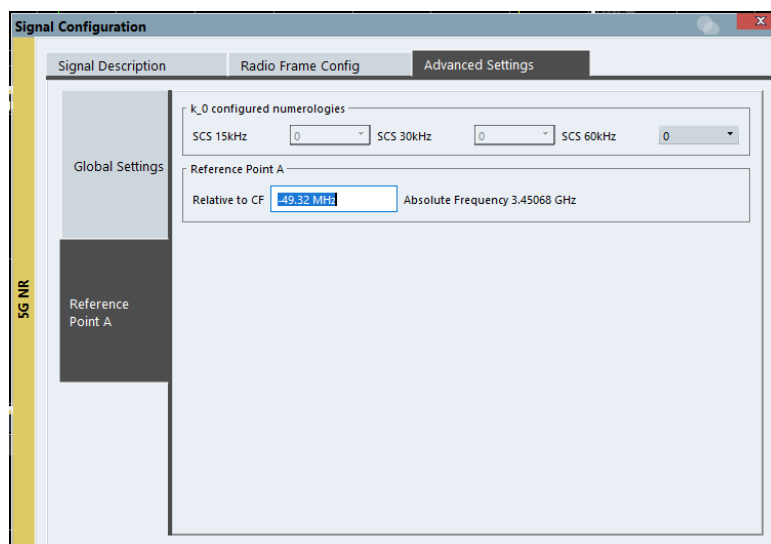

Fig. 2-38: Advanced Settings configuration
- I Reference point A : Relative to CF is -49.32 MHz as shown in Fig. 2-38